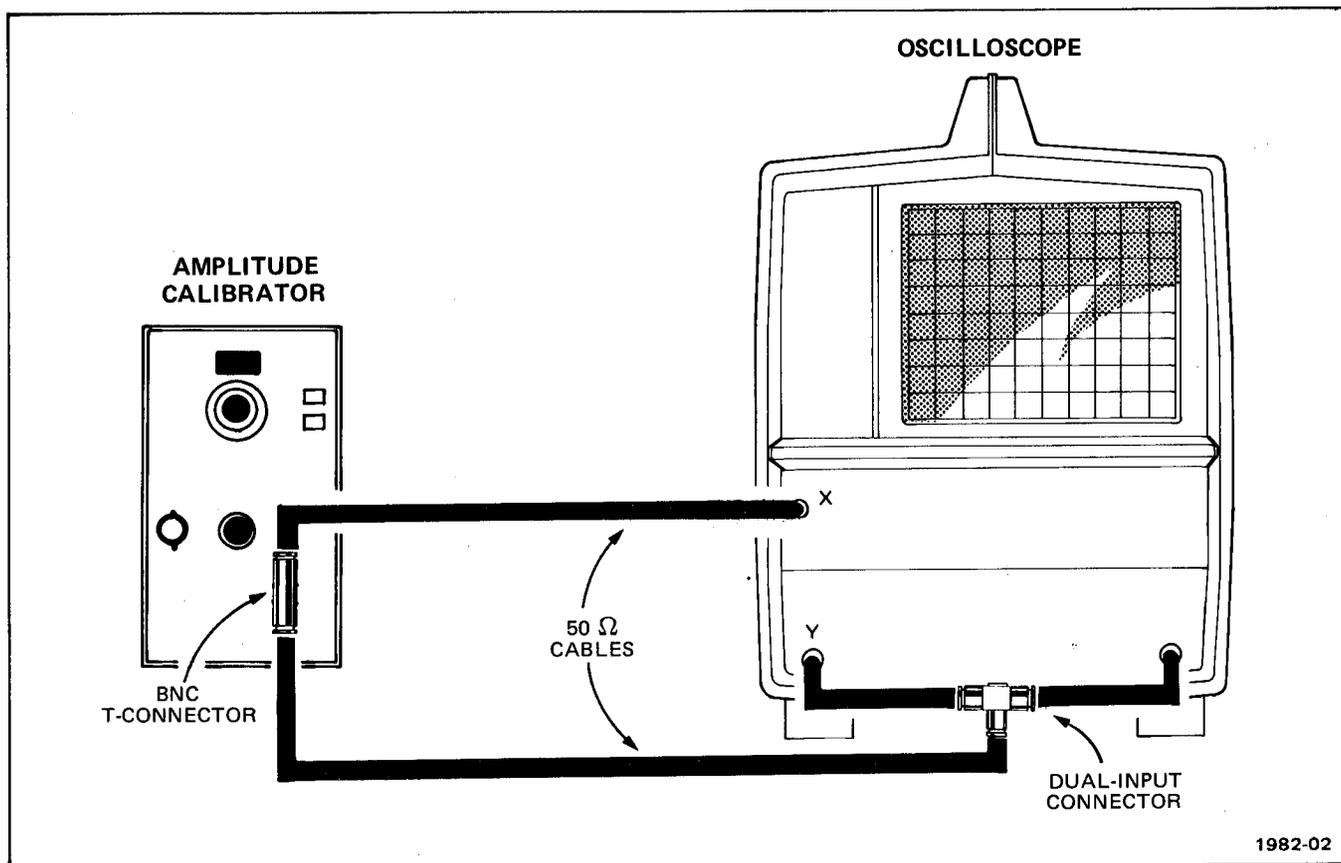

Fig. 3-1. Deflection accuracy and X gain check test setup.
a. Connect test equipment as shown in Fig. 3-1 (use appropriate POSITION control as needed to center the display within the graticule area).
- b. Connect test equipment as shown in Fig. 3-1 and set calibration generator output amplitude to 5 V.